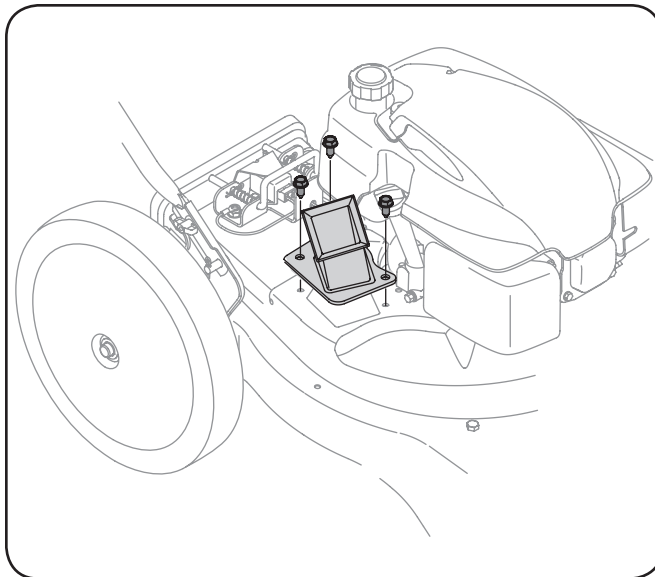

Figure 7-1
3. Remove the three hex capscrews holding the chipper chute to the upper housing. See Fig. 7-1.